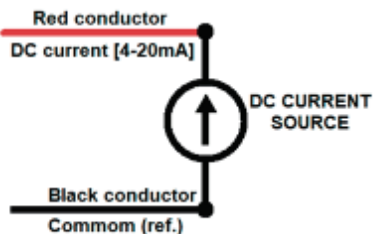

Figure 3.3 - DC current input
- DC Current: 4-20mA DC (Red & Black signal wires - figure 3.3)